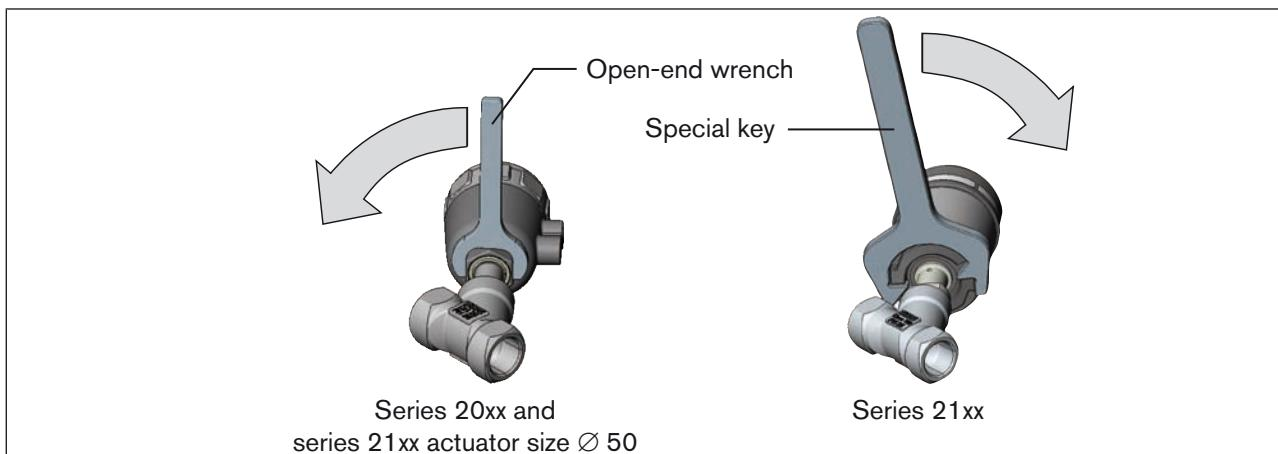

Figure 16: Rotating with special key / open-end wrench
- Rotate the actuator module in the specified direction only (series 20xx or 21xx, see "Figure 16: ") !